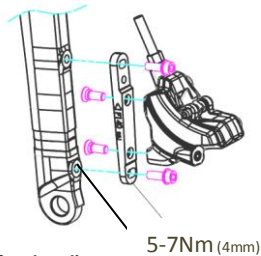

Fig. D-1 Align front-caliper with fork mounting holes.
- Assemble the adapter and front caliper together, tightening torque is 5-7Nm(4mm) **(Fig. D-1)**